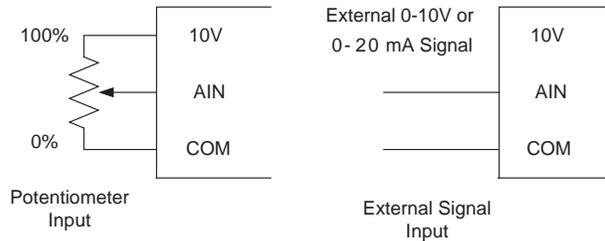

Figure 1
- G. **Set Frequency Reference Source:** Set Frequency Reference Source: change parameter 1-06 to change the frequency reference source as shown below. After setting parameter 1-06, remove AC input power, wait for the "Charged" LED to extinguish, and connect any devices to the drive as shown in Figure 1.